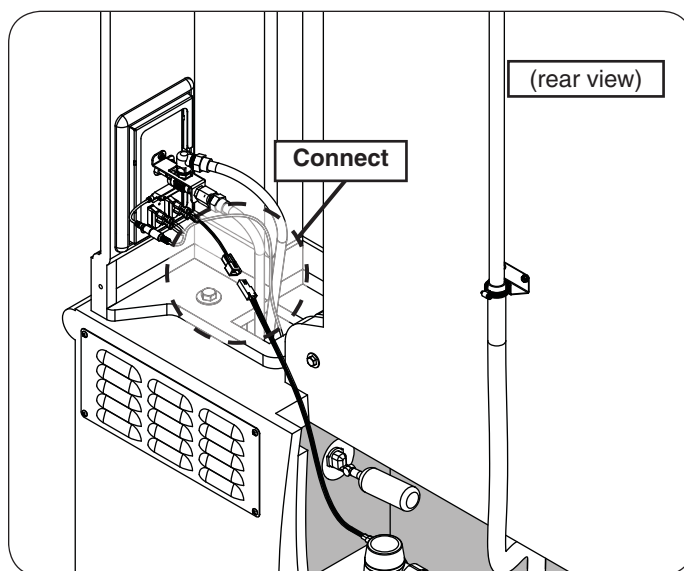

Fig. 24-2 Connect pump wire
3. Connect the loose wire on the pump to the shorter loose wire coming from the control box (see Fig. 24-2).